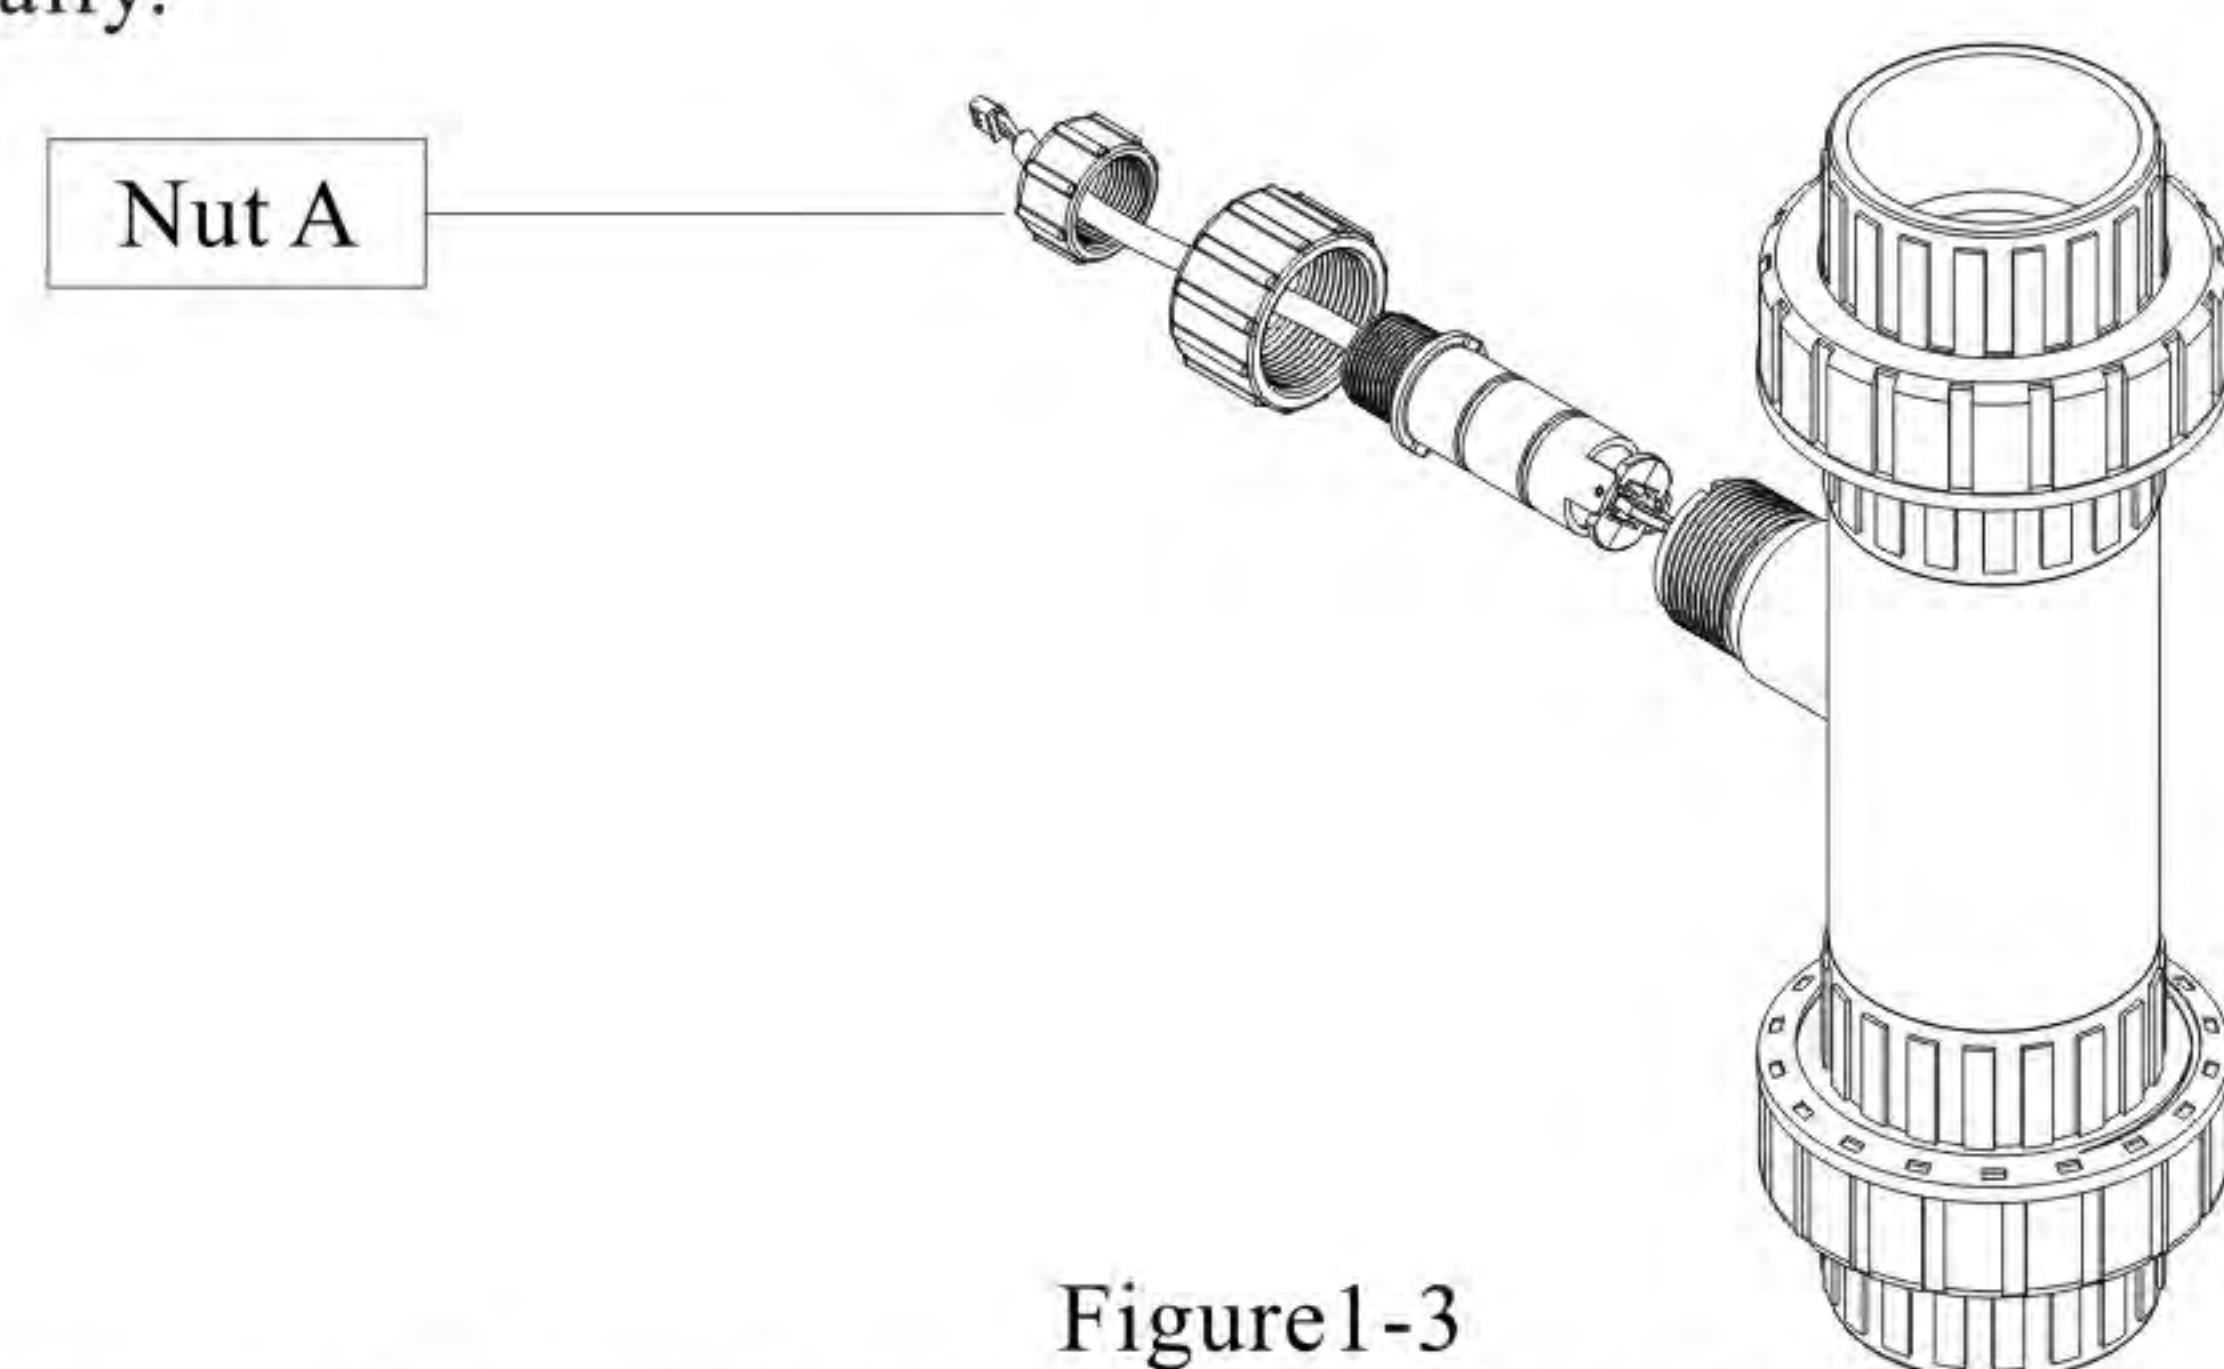

Figure1-3
- B. When the flow meter stop measuring but the tested liquid still flow, it can check the work mode of probe online. Screw the probe nut A out, and check the working condition of the diode on the back of probe. If the diode always light on or off, it indicates the impeller in pipeline stop rotating. It shall stop pipeline working, release pressure in pipeline, and disassemble the probe to check if there is any foreign matter impact impeller rotating. After cleaning, if it can rotate normally by manually, and the diode works normally, it can continue to use after confirming the installation correct. (As Figure 1-3)